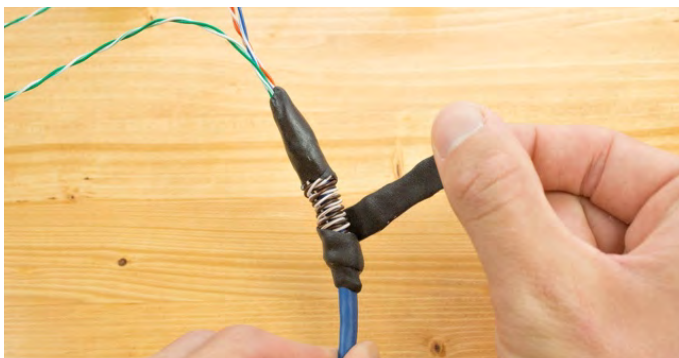

Figure 42
- ❑ Wrap the last piece of poly butyl rubber tape around the area of cable with the brown wire pair. (Figure 42)